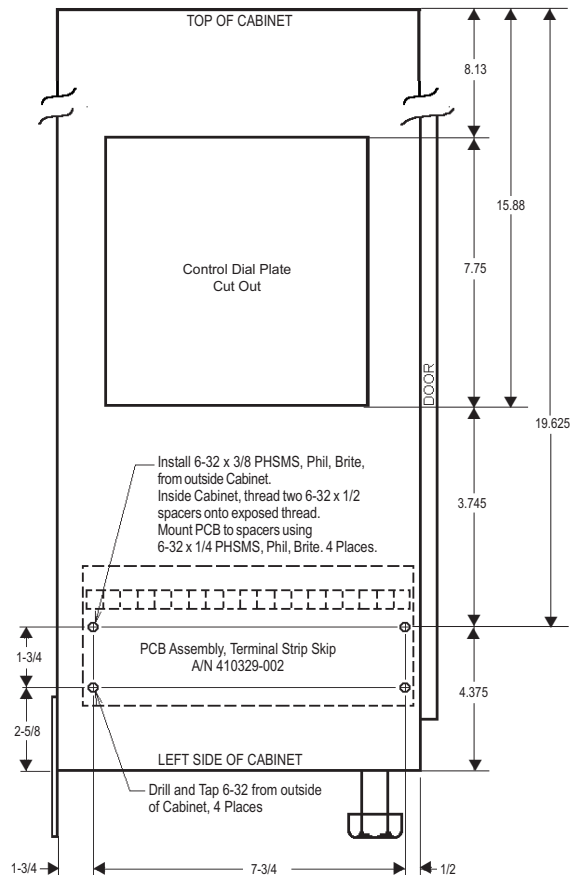

Figure 3. Mounting detail for "T" or "D" Cabinet
3. Remove the four (4) screws mounting the Terminal Strip Input Board (A/N 410329) to the Cabinet. Rotate the Board 180° (so the terminal strip is at the top) and re-mount the Board using the same four (4) screws.
4. Drill and tap the left side of the cabinet per Figure 3, be sure to vacuum or otherwise remove ALL metal chips before installing four (4) 6-32 x 3/8 PHSMS, Phil., Brite from outside the cabinet. On the inside of the cabinet, mount two (2) 6-32 x 1/2 spacers (P/N 555031) on each exposed thread (4 places) to offset PCB 1" from cabinet wall.
5. Mount External Terminal Strip Skip PCB (A/N 410329-002) to spacers using four (4) 6-32 x 1/4 PHSMS, Phil., Brite. See Figure 3.